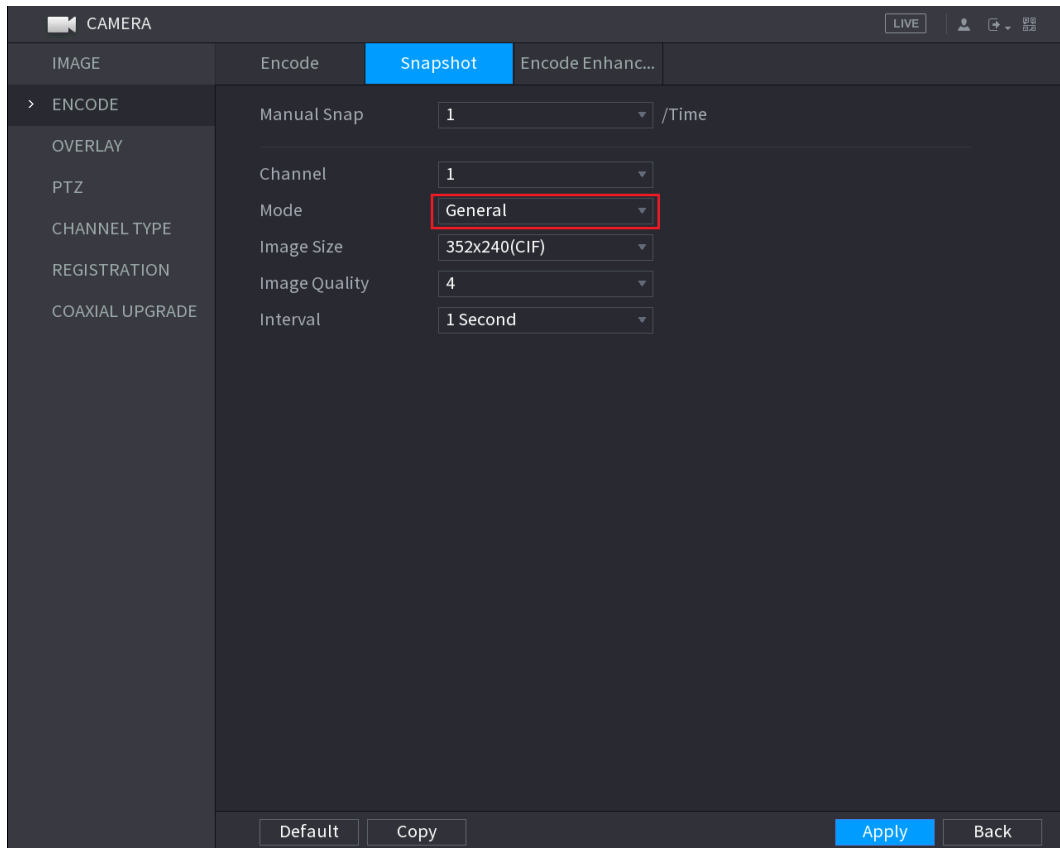

Figure 5-97
**Step 5** In the **Mode** list, select **General**, and then configure other parameters. See Figure 5-97.